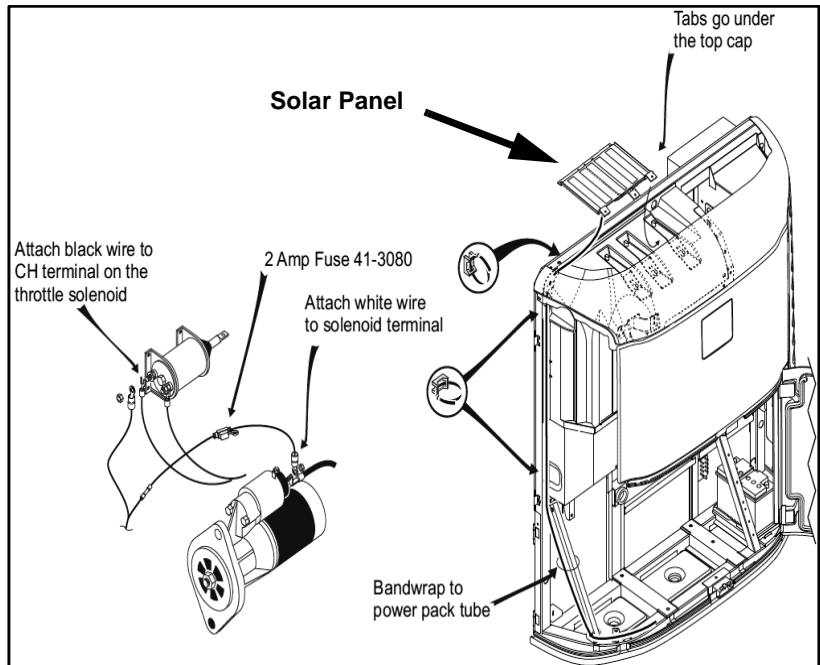

Figure 2
4. Position solar panel on top of unit towards the curbside avoiding the muffler, condenser air outlet, and center mounting hole (**Figure 2**).
7. Route harness down the rear curbside frame member to the angled frame support and along the frame front member to the starter (**Figure 2**). **IMPORTANT: Do not attach wiring harnesses to the fuel lines.**